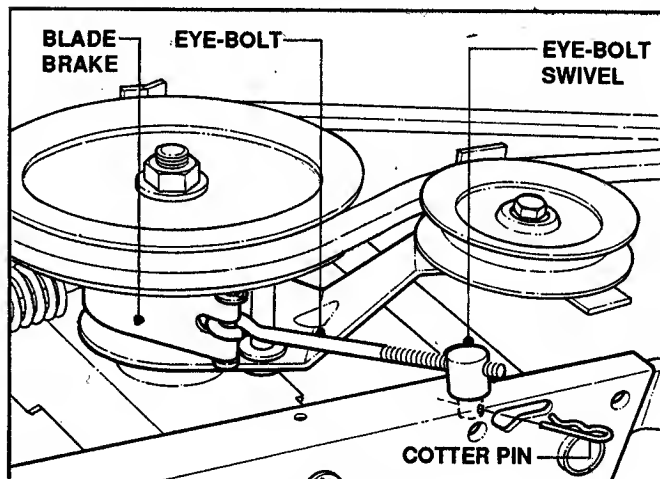

FIGURE 4.6
3. Rotate swivel clockwise several complete rotations. See Figure 4.6.